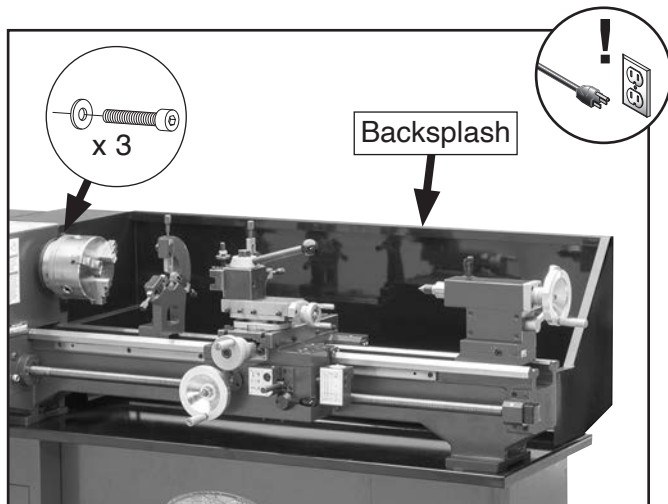

Figure 131. Location of backslash and securing fasteners.
2. Remove (3) cap screws and flat washers shown in **Figure 131** to remove backslash.